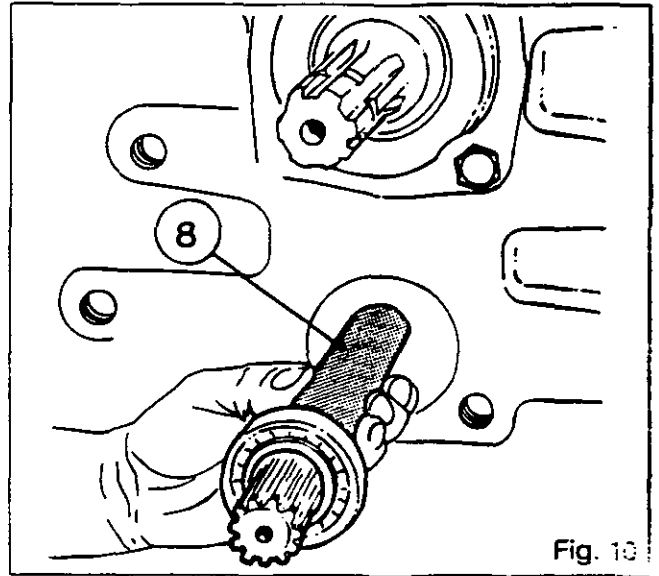

Fig. 10
#### Early-type bracket with automatic hook control (Fig. 10)
41. Fit the shaft assembly (8) (Fig. 10) and circlip (4) in the housing.